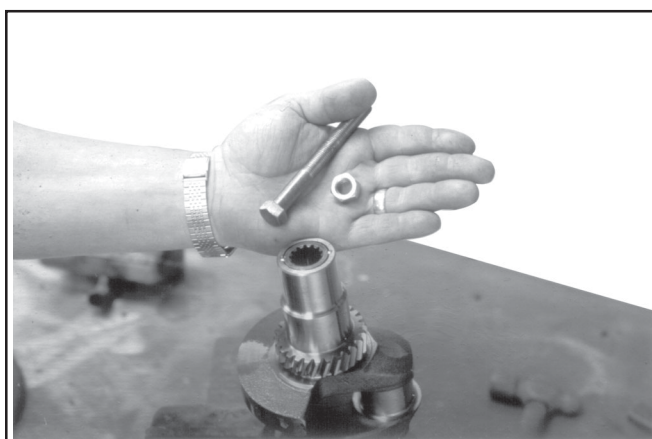

Figure 1.
1. Obtain a 7/16-20 nut and a 7/16-20 x 4-1/2 hex. capscrew. The capscrew must have about 3" of thread length. See Figure 1.